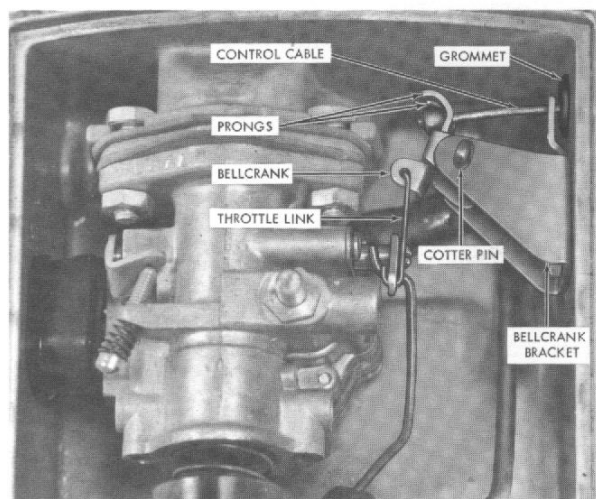

Figure 11. Bellcrank Assembly
12. Feed the end of the Throttle Cable (leading from the Pruner handle) through the Special Grommet (P/N 57436). Insert the end of the Throttle Cable through the 1/2-inch hole in the airbox and hook the Cable between the two prongs on the Bellcrank. Slide the Special Grommet toward the end of the Cable and mount it in the 1/2-inch hole as shown in Figure 11.